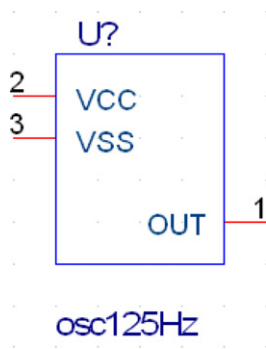

FIGURE 20.28
- Move the output pin from the left- to the right-hand side and resize the part. Your osc125Hz symbol should look similar to the symbol in Figure 20.28.